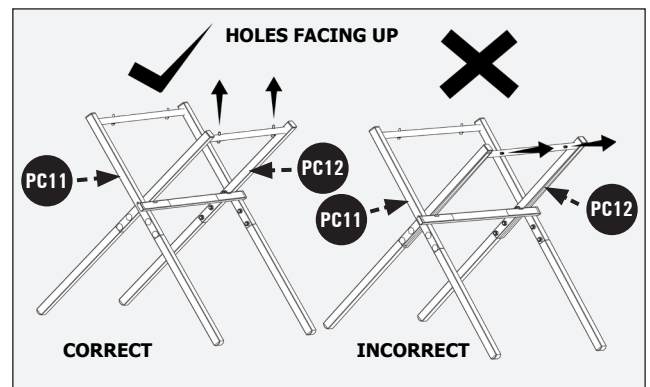

FIGURE 3
3. All four holes should face up to mount saw body. See Figure 3 for correct stand parts setup.